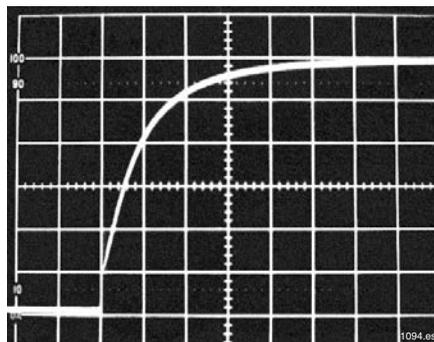

Figure 7.3 Proper oscilloscope display for measuring the rise time of the phototransistor.
11. Expand the sweep/timebase and the vertical amplitude settings on the oscilloscope to measure the rise time at the phototransistor collector. (If you are uncertain about the definitions of rise and fall times see the **Glossary** at the rear of this manual.) See **Figure 7.3** for a typical oscilloscope display for measuring rise time. Record the rise time in **Table 7.1**.